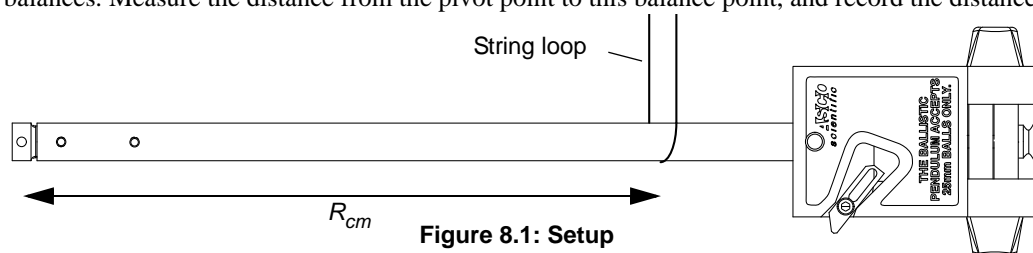

Figure 8.1: Setup
- Tie a loop in a piece of string, and hang the pendulum horizontally from the loop. (See Figure 8.1.) With the ball latched in position in the ball catcher, adjust the position of the pendulum in the loop until the pendulum balances. Measure the distance from the pivot point to this balance point, and record the distance as  $R_{cm}$ .